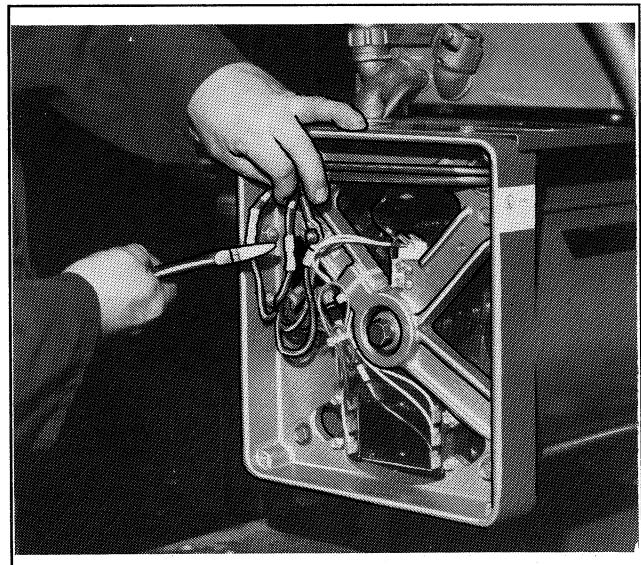

Figure 8-2. Cutting Load Leads
6. Remove load leads from generator connections. For units with terminals side mounted in end bracket, disconnect leads L1 and L2 from insulated terminals. If disassembling a unit with spliced connections, cut L1 and L2 leads at insulink connectors in end bracket assembly. See Figure 8-2. Remove L0 and green ground lead (if equipped) from ground connection(s).